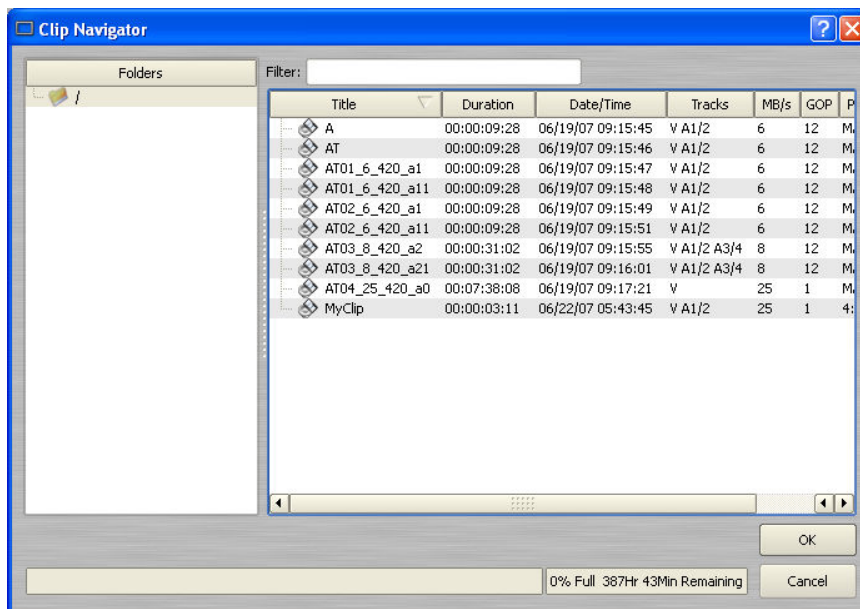

Figure 18 - Clip Navigator
- The Clip Navigator of Figure 18 is displayed. **Right-Click** on the folder icon displayed under the **FOLDERS** window.